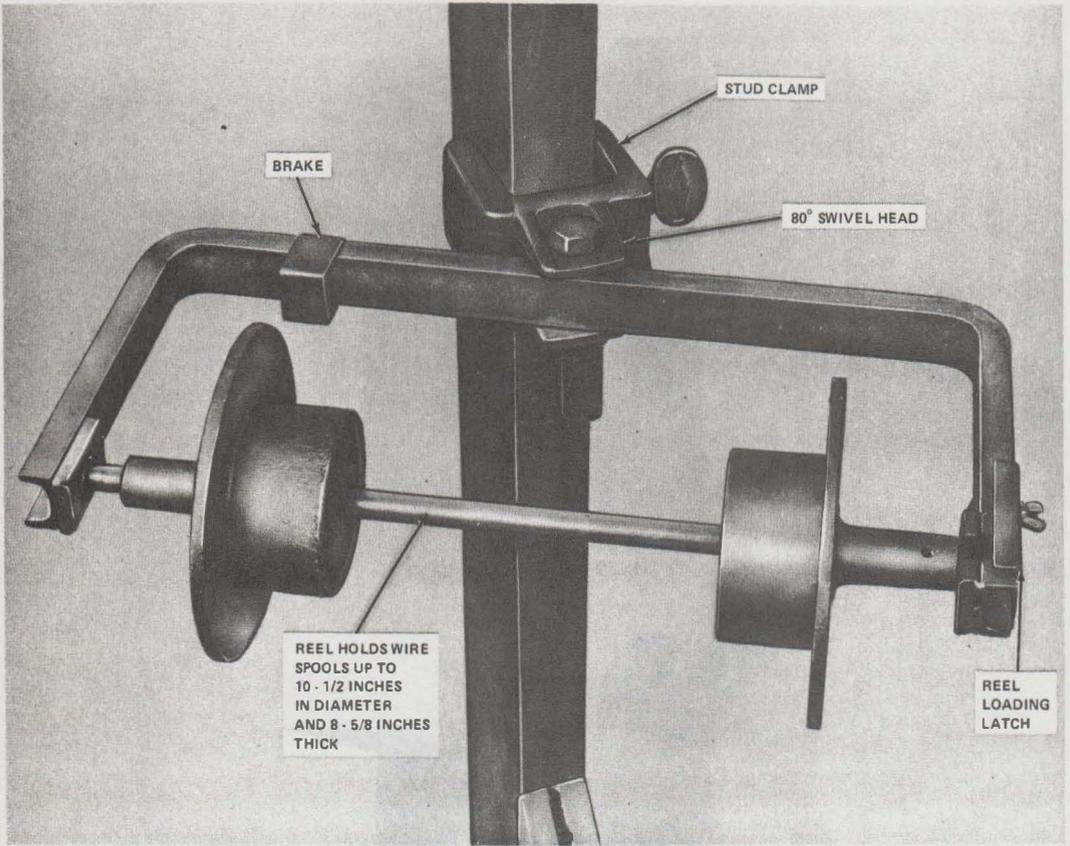

Fig. 4—♦AT8903 B Station Wire Reel Mounted on Stud♦
- 3.02 The G, H, and KS-22084 teflon station wire or 4 pair D inside wiring cable may be dispensed most efficiently with the AT-8903 B station wire reel (Fig. 4). Clamp B station wire reel to post, stud, or beam. Remove cardboard spool of wire from carton, place it within flanges of B station wire reel, and dispense as needed.